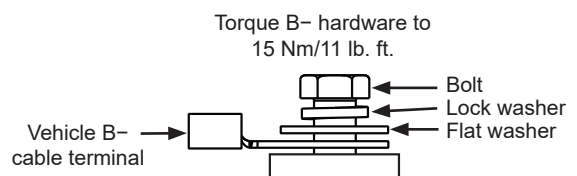

Figure 3: B- Terminal Hardware Stacking Order
12. Connect vehicle B- cable to alternator B- terminal. Install B- hardware in stacking order shown in Figure 3. Torque to 15 Nm/11 lb. ft.